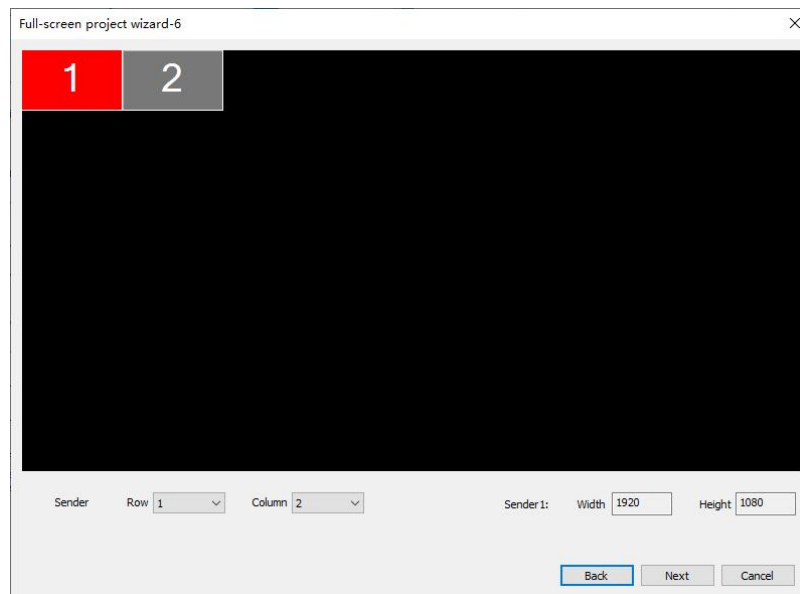

Fig 3-17 Sender layout settings
- When *Calibration Pro* has detected more than 1 sender, you will need to set the sender layout before continuing the wizard-6. See Figure 3-17.